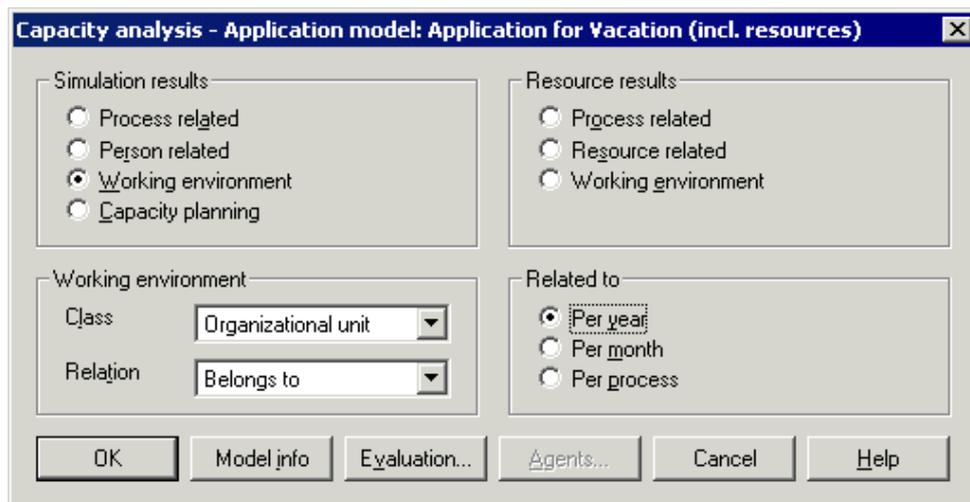

Figure 323
After the simulation run, the result window "Capacity analysis - application model: <Model Name>" (see fig. 323) appears.
**Hint:** To view the personnel capacity demand you must select "Per year" or "Per month" in the window "Capacity analysis - application model: <Model Name>" (see fig. 323).
Transfer the results of the capacity analysis by clicking on the button "**Evaluation**" in the window "Capacity analysis - application model: <Model Name>" (see fig. 323).